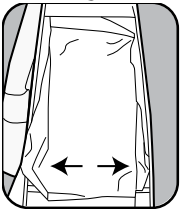

Fig. 3
3. Pull out the bottom corners of the new bag to expand the bag capacity (Fig. 3).